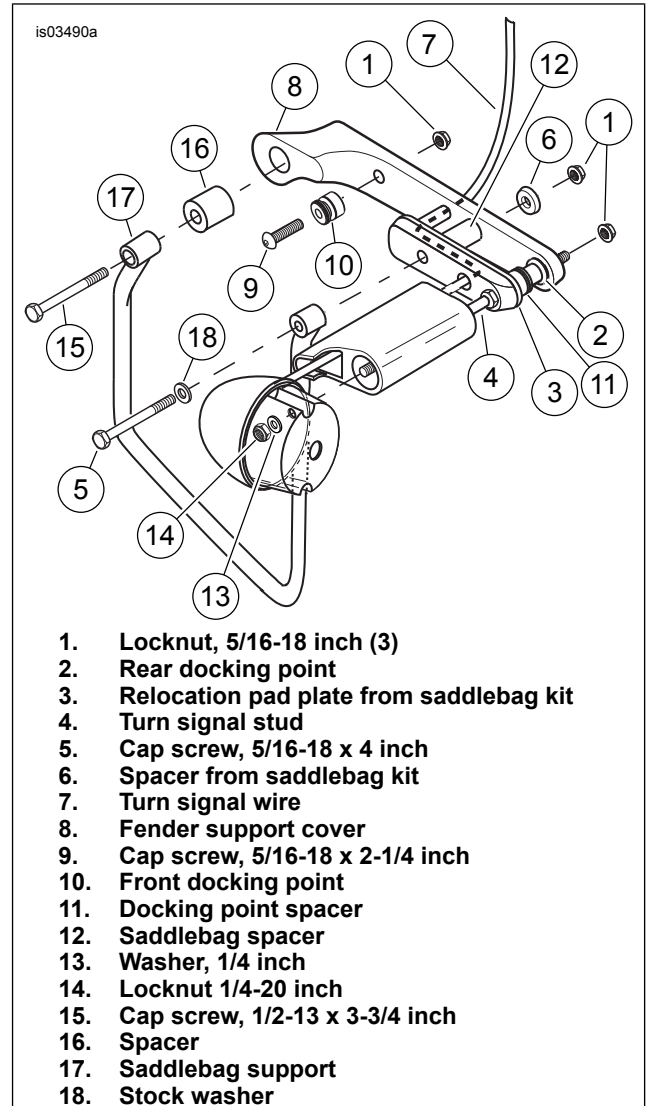

Figure 1. Installation shown on 2000 model
See Figure 1. Before mounting saddlebag supports remove button screw from upper stock mounts, and proceed to Step 2.
3. **On 1999 and earlier models:** Mount saddlebag support following directions supplied in saddlebag kit and install saddlebags. **On 2000 models:** See Figure 1. Install saddlebag support according to directions supplied in saddlebag kit making sure to use the spacer (16), and screw (15) supplied in this kit.
*6	Locknuts (2), 3/8-16	7778	14	Locknuts (2) 1/4-20	7686
*7	Washers (4), 3/8	6701	*15	Capscrews (2), 1/2-13 x 3 3/4	3829
*8	Shock mount spacers (2)	90506-98	*16	Spacers	53847-00
*Item numbers 6, 7, and 8 are for installation on 1999 and earlier models. Items 15 and 16 are for installation on 2000 models (See Figure 1).